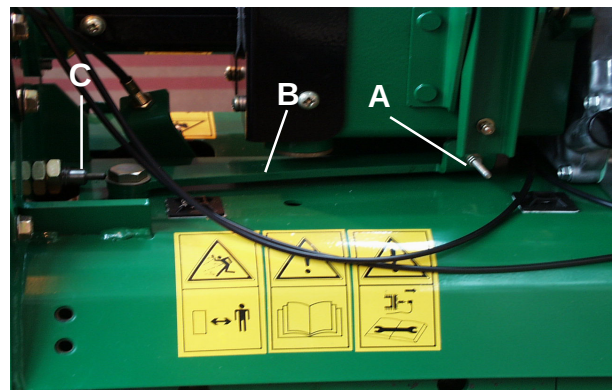
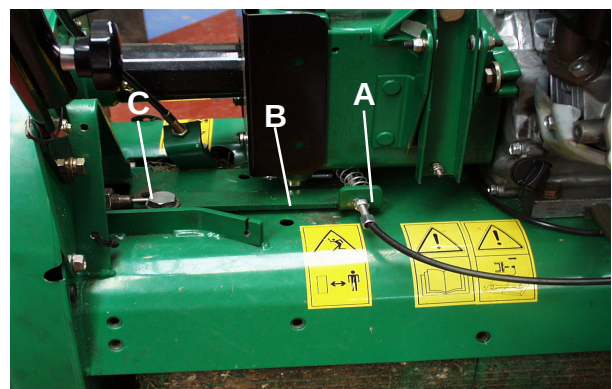

Fig. 8.9a
Fig. 8.9b
Refer to Fig 8.9a for Marquis & Super Bowl with Motivair operated landroll clutch
Refer to Fig 8.9b for Marquis, Super Bowl and Super Certes with cable operated landroll clutch
Slacken locknuts (A) and rotate the adjuster Fig 8.9b or the locknuts Fig 8.9a so that the lever (B) just touches the pin (C).